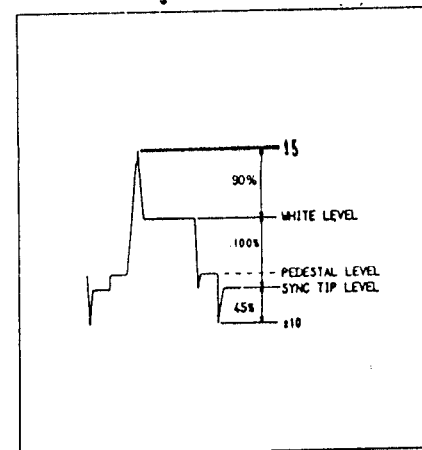

Fig. 9 White and Dark Clip Adjustment
- 4) Adjust the White Clip Control (VR3306) and Dark Clip Control (VR3305) so that the overshoot and undershoot are as shown in Fig. 9.